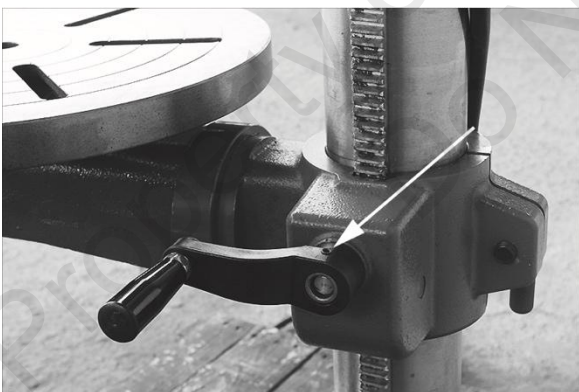

Figure 4-1: Installing crank handle
2. Install crank handle on shaft of table bracket, and tighten set screw with 3mm hex wrench. (Fig. 4-1)